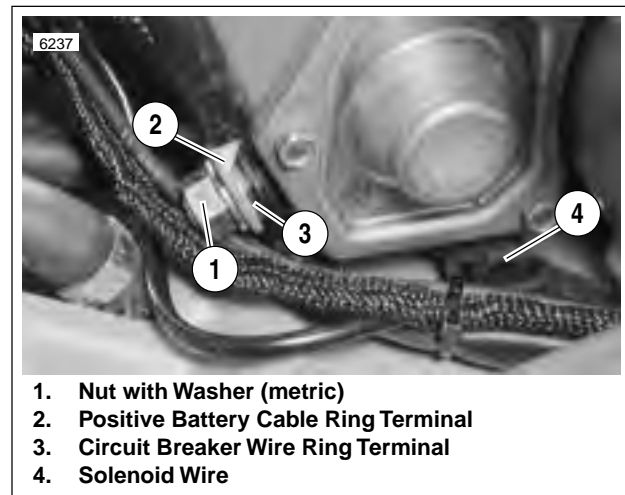

Figure 5-10. Starter Wires (Protective Boot Not Shown)
3. See Figure 5-10. Remove nut with washer (1) (metric).
- a. Remove positive battery cable ring terminal (2).
- b. Remove circuit breaker wire ring terminal (3).
- c. Remove protective boot (if equipped) and detach solenoid wire (4).